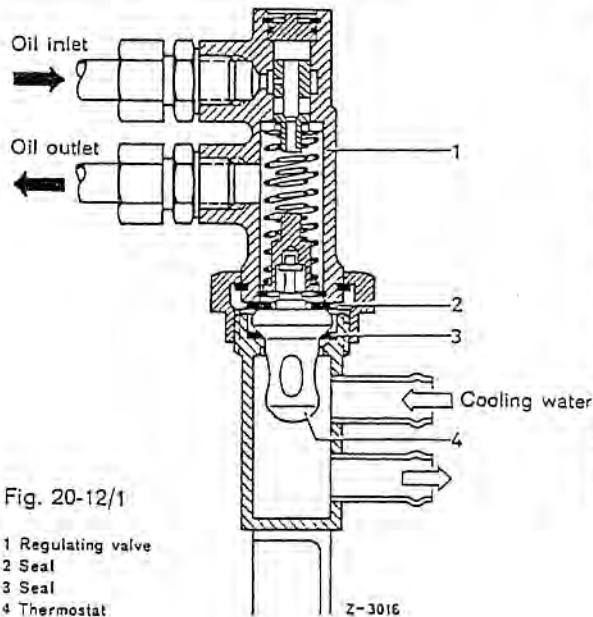

Fig. 20-12/1
1. Place a rubber ring round the end of a fan blade and position spring balance at right angles to the fan blade in the plane of the fan (Fig. 20-12/2).